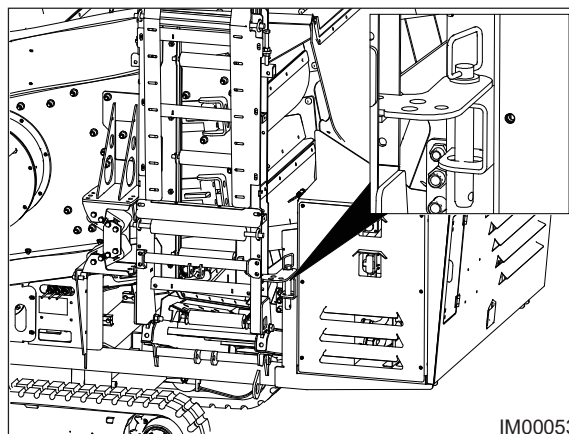

Fig: 10.12 - Transport Pin
6. Insert the transport pin (Fig: 10.12) and secure.